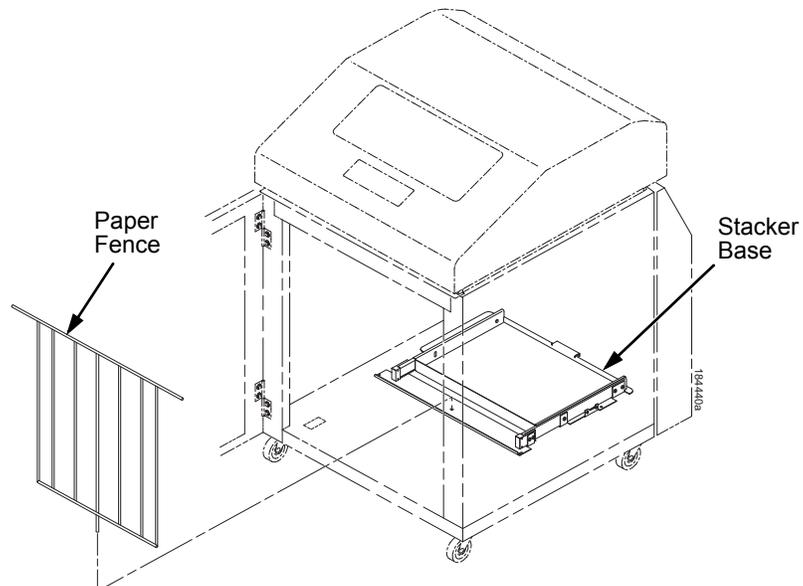

Figure 7. Removing the Paper Fence
5. Cut the tie wrap (if present) and remove the paper fence. (Figure 7.)